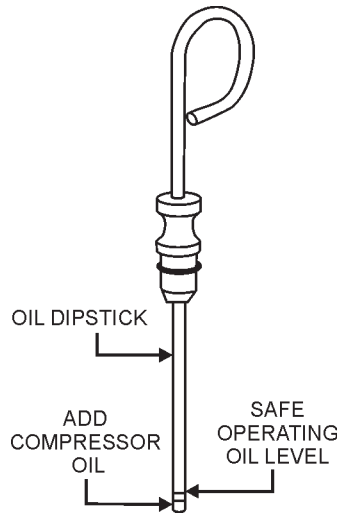

Figure 30. Compressor Dipstick (Oil Levels)
2. Determine if the air compressor oil level is low (Figure 30), add correct amount of oil to bring oil level to a normal safe level. The compressor's crankcase capacity is 1.5 pints (.709 liters). See Table 7 for recommended oil type.